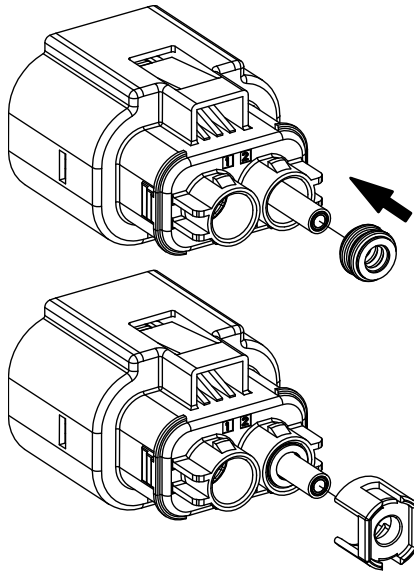

Figure 18
3. Slide the cable seal along the cable and push it into the cavity until it is flush with the back of the terminal cavity as shown in Figure 18.